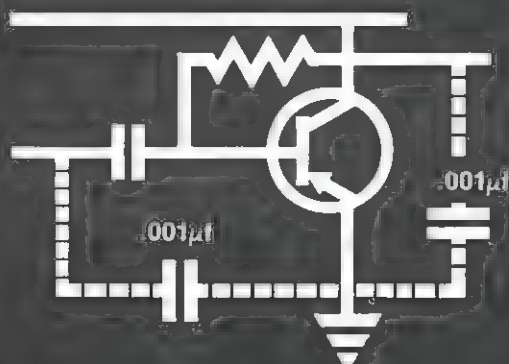
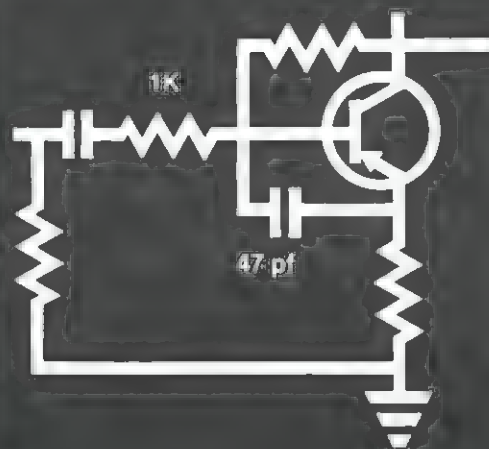

Fig. 18
Fig. 19
1. Interference in transistor equipment can usually be eliminated with the use of a shunt capacitor as shown in Figure 18. A resistor/ capacitor combination can be used as shown in Figure 19. It is important that the filter network does not affect the biasing of the transistor or the frequency response of the amplifier.